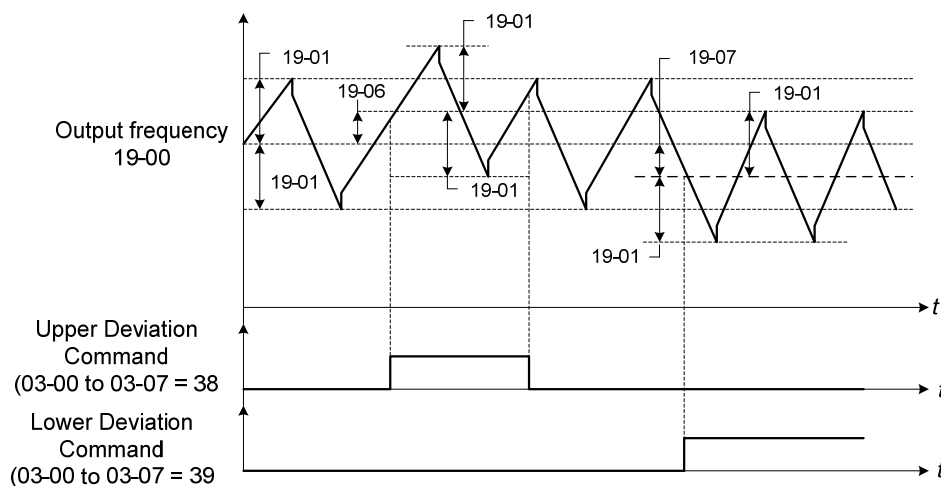

Figure 4.3.106 Upper/Lower offset operation
- In the wobble operation, the center frequency can be controlled by one of multi-function digital inputs. However, the command of wobble upper offset (03-00 to 07 = 38) and the command of wobble lower offset (03-00 to 07 = 39) can not be input at the same time, otherwise the inverter will maintain the original center frequency (19 - 00). Refer to Figure 4.3.106.